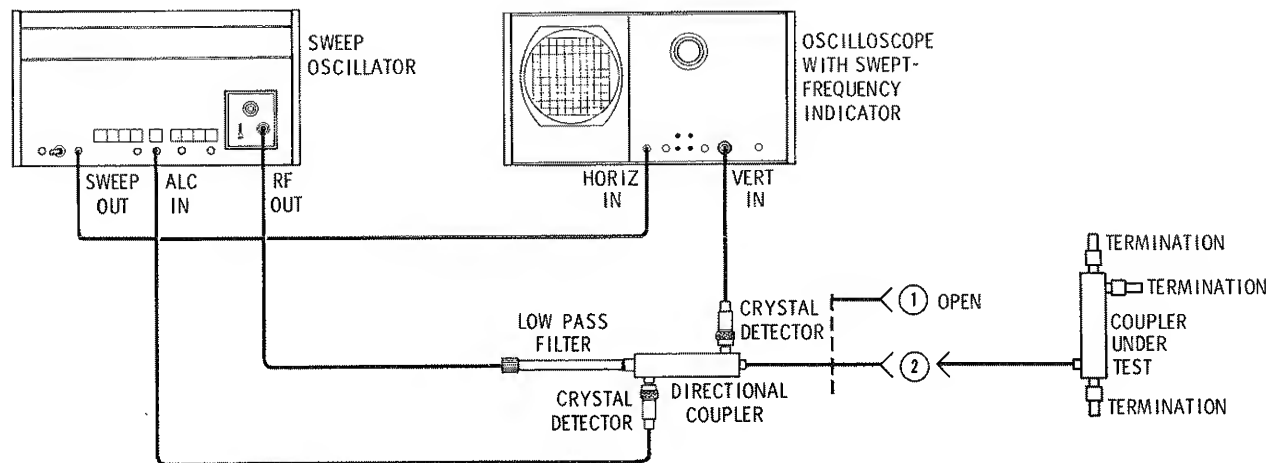

Figure 10. Swept-Frequency Auxiliary Arm SWR Test Setup
To test a 774D use another good 774D as the directional coupler in Figure 10. To test a 775D use a good 775D.
- a. Connect the equipment as shown at (1) in Figure 10.
1. Connect the 774D or 775D under test as shown at (2) in Figure 10.